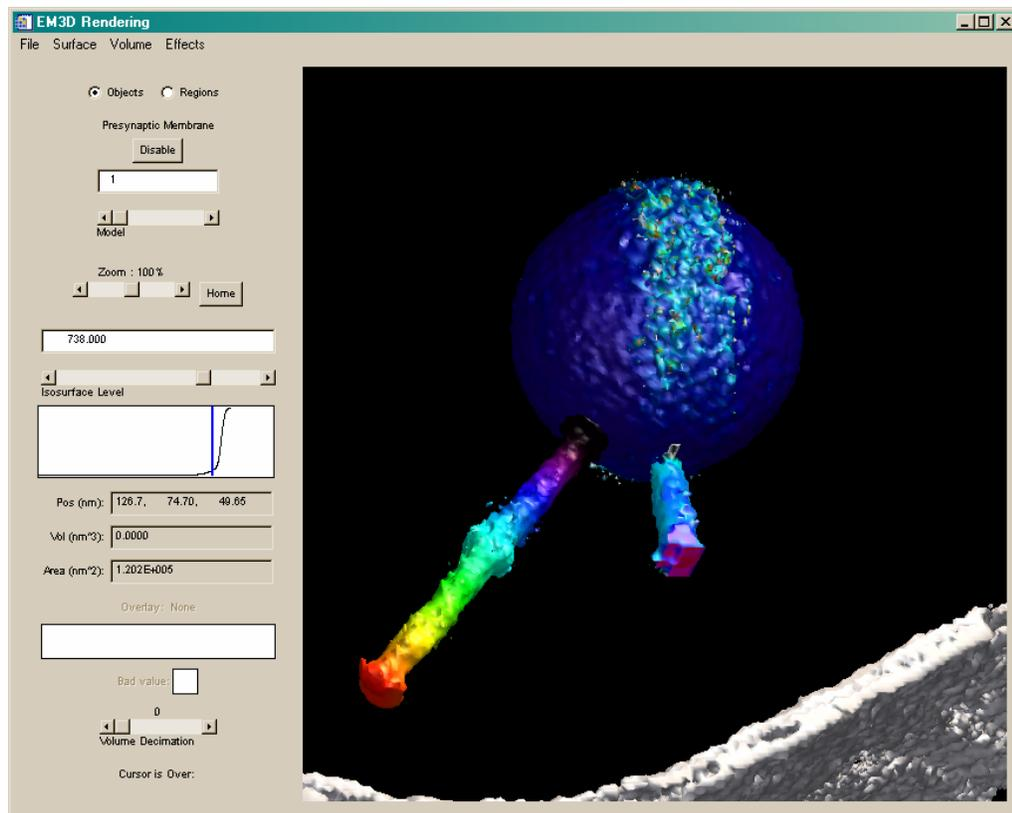

Figure 27: Color overlays showing spatial uncertainty on the vesicle, proximity to the vesicle on Filament 1, and thickness on Filament 2.
14. Select “Thickness” from the **Overlays** pull-down menu. In the Objects list, select “Filament 2.” Click on the color bar, and use the color bar dialog to change the color bar to “Blue-Red.” Press the **Apply** button to visualize the thickness values on “Filament 2.” Use the mouse controls in the 3D graphics window to examine the results (see Figure 27).